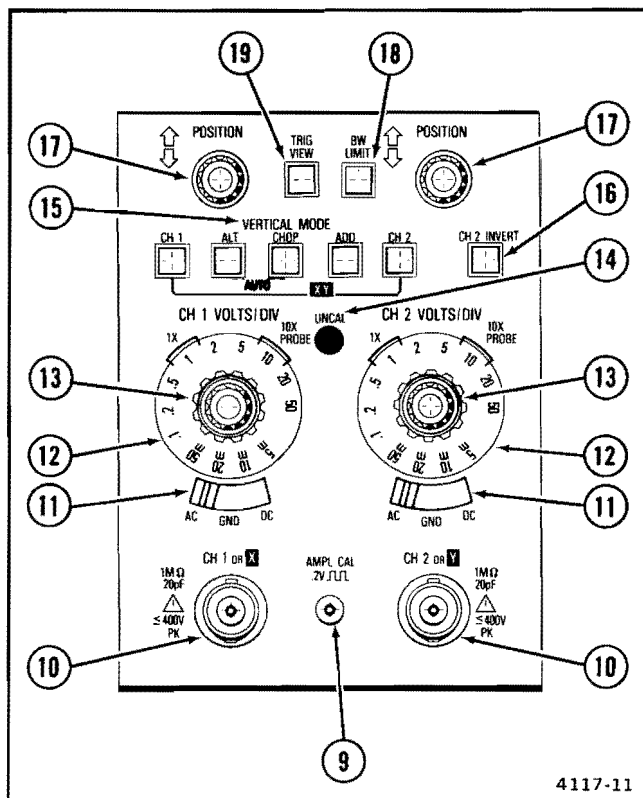

Figure 2-4. Vertical controls, connectors, and indicators and calibrator output.
Refer to Figure 2-4 for location of items 9 through 19.
- ⑨ **AMPL CAL Connector**—Provides a 0.2-V, positive-going square-wave voltage (at approximately 1 kHz) that permits the operator to compensate voltage probes and to check oscilloscope vertical operation. It is not intended to verify time-base calibration.
- ⑩ **CH 1 OR X and CH 2 OR Y Connectors**—Provide for application of external signals to the inputs of the vertical deflection system or for an X-Y display. In the X-Y mode, the signal connected to the CH 1 OR X connector provides horizontal deflection, and the signal connected to the CH 2 OR Y connector provides vertical deflection.
- ⑪ **Input Coupling Switches (AC-GND-DC)**—Select the method of coupling input signals to the vertical deflection system.